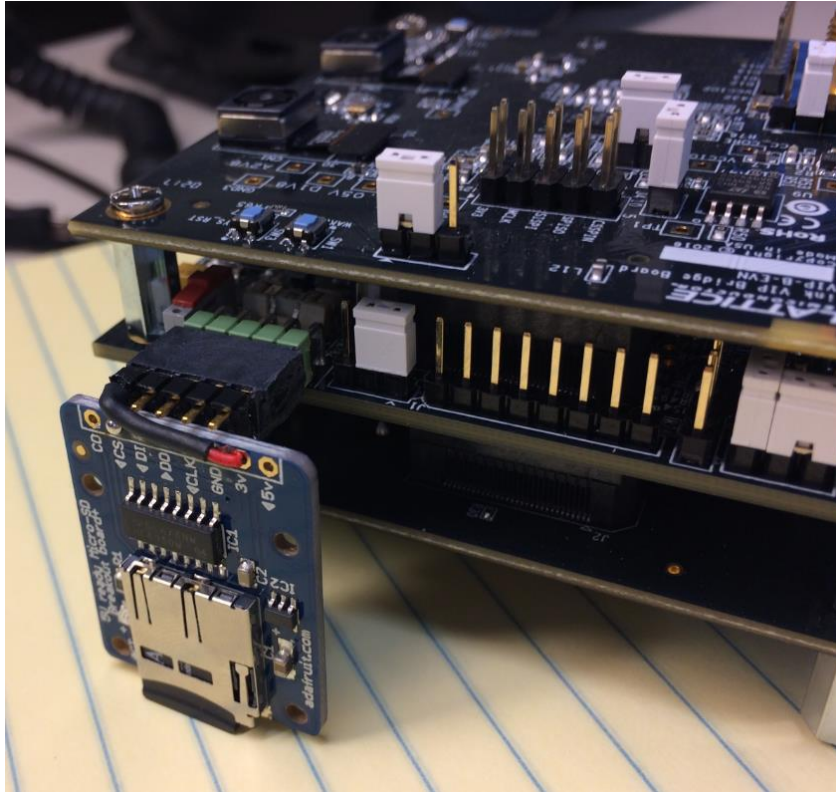

Figure 4.9. Connecting the MicroSD Card
3. Connect the MicroSD Card as shown in Figure 4.9.